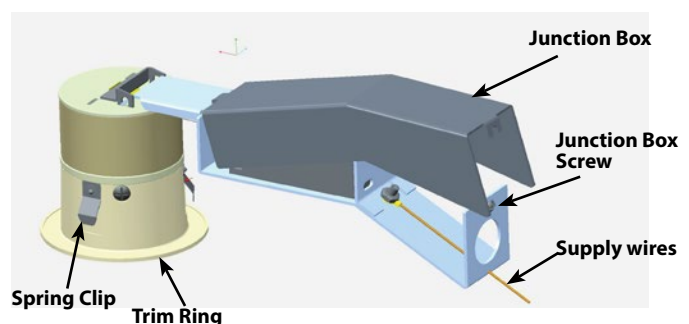

Fig: 2
6. Loosen the **Junction Box Screw** and open the **Junction Box** (Fig.2). Attach **Supply Wires** into **Junction Box** and connect to the fixture. See wiring section for details.